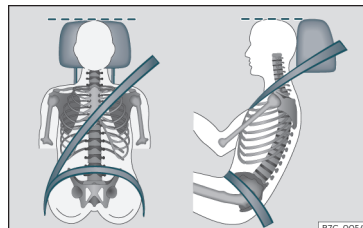

Fig. 3 Correct belt web and head restraint positions
- Adjust the head restraint so that its upper edge is at the same level as the top of your head, or as close as possible to the same level as the top of your head and under no circumstances below eye level. Keep the back of your neck as close as possible to the headrest»» Fig. 3.